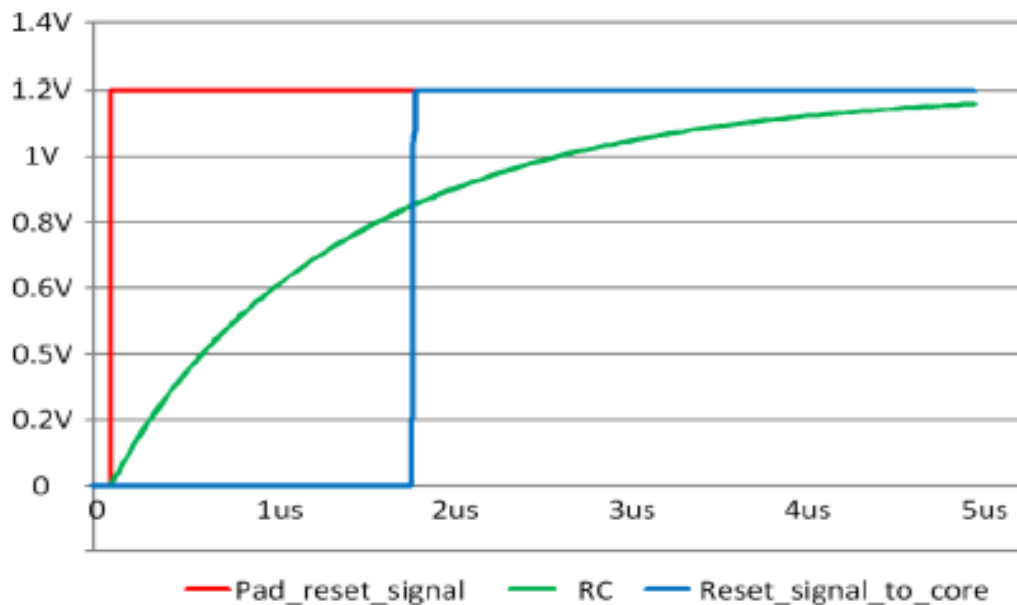

Figure 4. RST Pad Latency
The response is illustrated in the **Figure 4** which displays the voltage (V) on the vertical axis and the time (μ s) on the horizontal axis: